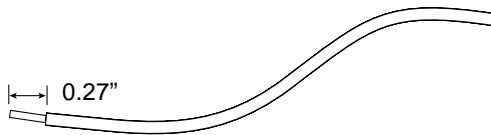

FIGURE 3 Striping the Insulation from the Cable
4. Strip .27 inches of insulation from each of the wires coming from the DC power source (FIGURE 3).